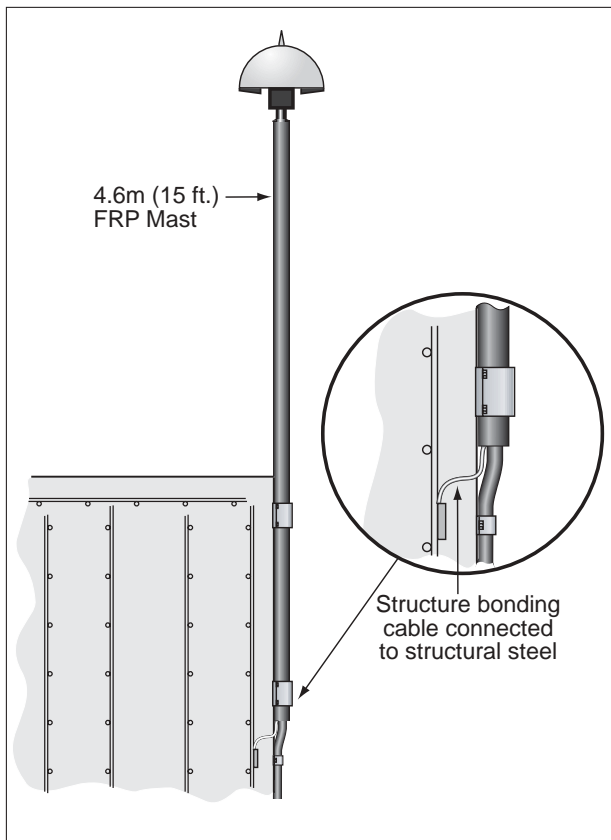

Figure 13: Bonding of mast base to conductive structure point.
- Connect the Structure Bonding Braid to the nearest conductive structural point of the facility using 6mm² insulated copper cable. See figure 13
For example, when using a 4.6 meter (15½ft.) FRP mast, mounted on a concrete roof, if the first downconductor saddle at the base of the mast cannot be electrically bonded to the structural steel work, then the structure bonding braid **MUST** be used and be electrically connected via a 6mm² (8 AWG) cable directly to the structural steel work. See Figure 13.